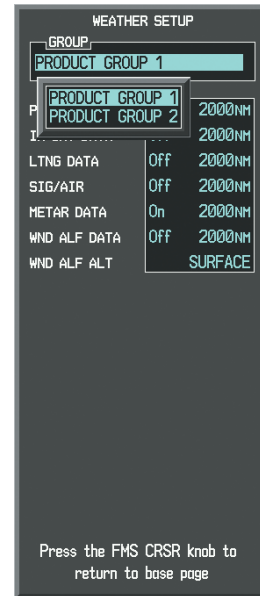

Figure 6-60 Weather Data Link (CNXT) Page Setup Menu
- 4) Turn the small **FMS** Knob to select 'Product Group 1' or 'Product Group 2', and press the **ENT** Key (Figure 6-60).